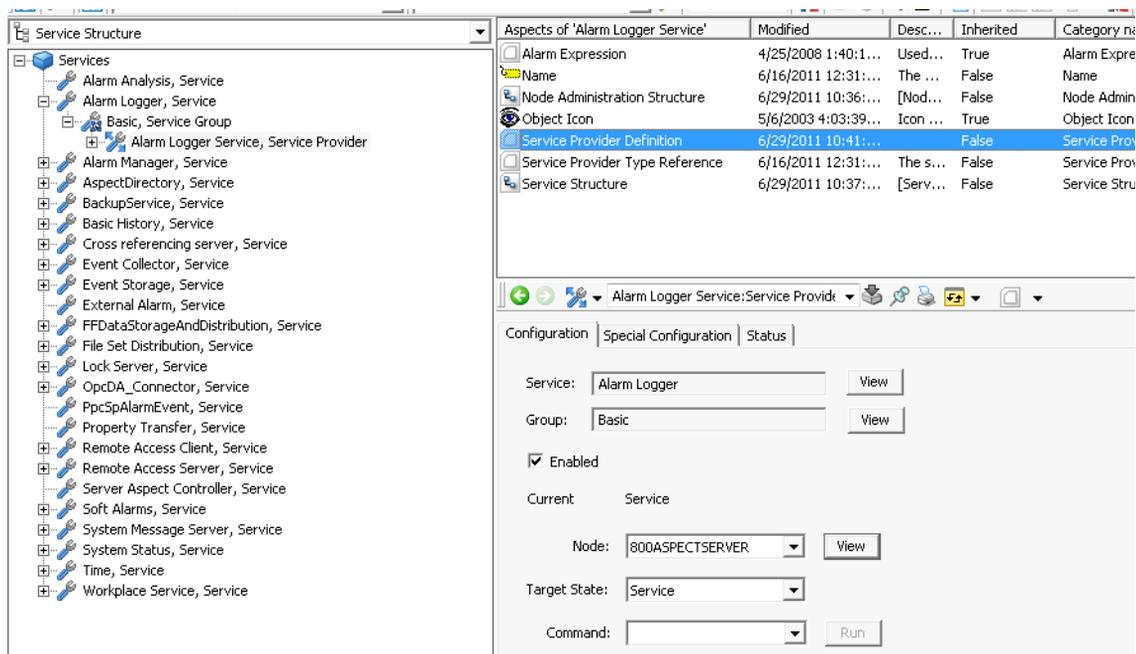

Figure 75. Service Provider Definition Aspect - Configuration Tab
5. Select the Service Provider object, see Figure 75, and open the Service Provider Definition aspect.